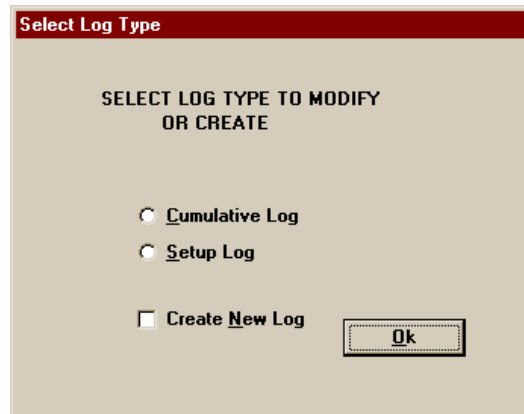

Figure 37. Select Log Type Screen
To create a new "Setup Data" file or "Cumulative Data" file containing default values (refer to Figure 37):
1. Select the log type (**Cumulative** or **Setup**) and **DO NOT** click the **"Create New Log"** option check box (refer to Figure 37).